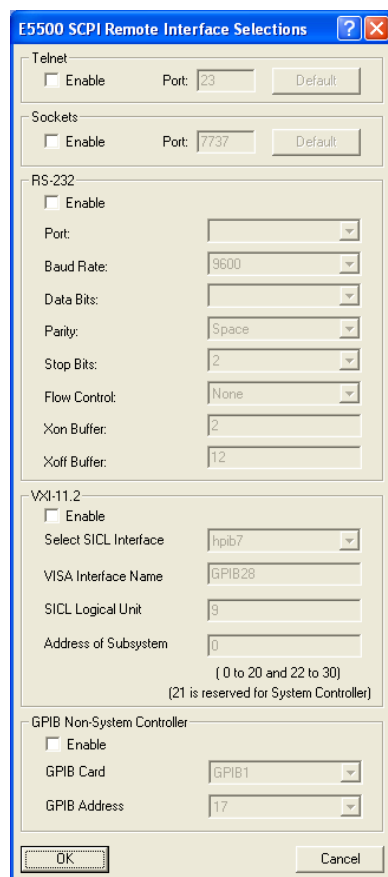

Figure 4 Choosing the interface
- 3 Choose which protocol you wish to use by checking either **Telnet Enable**, **Sockets Enable**, **RS-232 Enable** or **VXI.11.2 Enable** or **GPIB Enable** (Figure 4 on page 43).